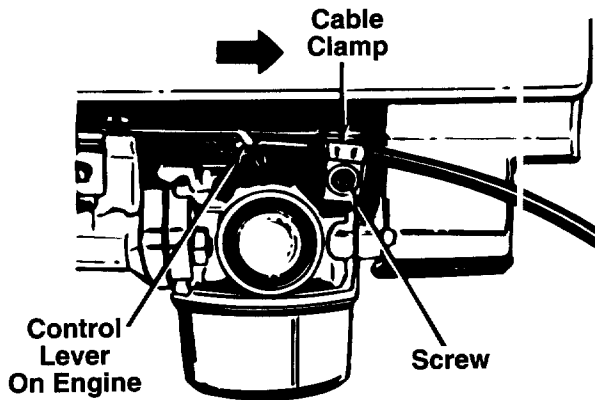

FIGURE 9B.—Tecumseh Engines
**NOTE: If you have a Tecumseh engine, simply loosen the screw shown in figure 9B so the cable will move freely beneath the clamp. It is not necessary to remove the screw and clamp completely.**